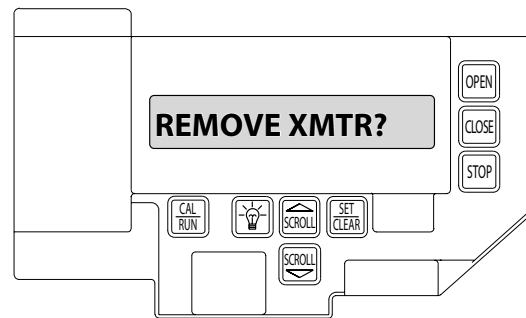

Fig. 2
2. Press SCROLL (up or down) until display reads "REMOVE XMTR?" Fig.2
™ Fire Door Operators include a self-diagnostic circuit board using troubleshooting LED indicators to signal the technician of a problem. Fig. 2